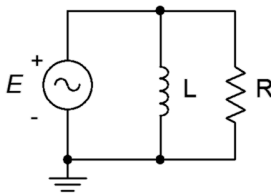

Figure 7.5
5. For the circuit shown in Figure 7.5, determine apparent power S , real power P , reactive power Q and power factor PF . The source is 90 volts, $X_L = j30 \Omega$, $R = 50 \Omega$.